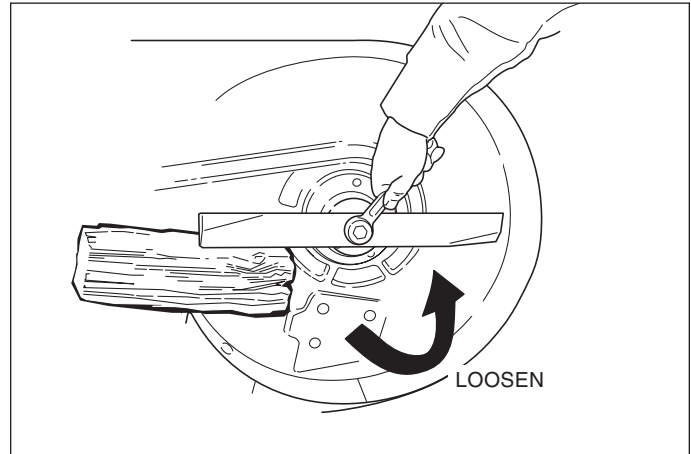

Figure 13. Blade Removal
2. See Figure 13. To remove blade for sharpening, use a block of wood to prevent blade rotation while loosening the capscrew.